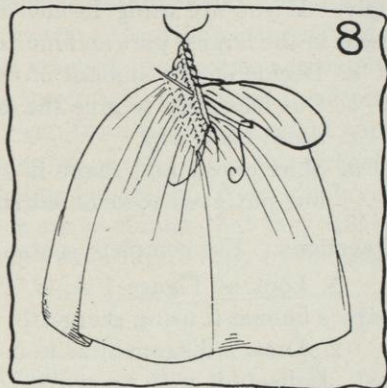

FIG. 8.
(1) All crowns are slightly oval (heads are oval), therefore, get half the shirring of that first row on one side and form a straight $\frac{1}{2}$ -inch line, then get the other half of the shirrings on the other side. The white stitches in the front and back are the half marks of the shirrings (see Figure 8).
(2) From the wrong side, overcast all of the shirrings in one half of the first row, to the shirrings in the other half of the first row (see Figure 8). Overcast each half to the other half very firmly, so that there will be a straight line in the center about $\frac{1}{2}$ inch long. Fasten the thread well.
(3) Show your work to your teacher to be sure it is correct thus far.